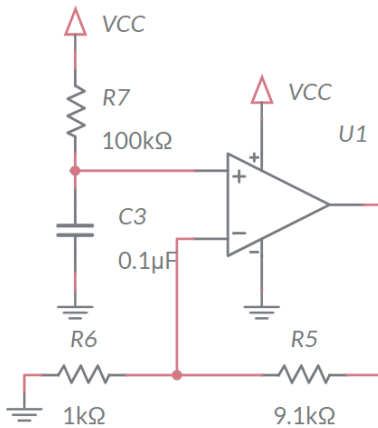

Figure 3: The Pseudo Ramp Generator circuit.
When plotted as a function of time, a ramp function has a constant slope measured as $\frac{\Delta V}{\Delta t}$. The term “Pseudo” is introduced into the name because the circuit to be built, shown in Figure 3, does not have a constant slope; it changes slightly as shown in Figure 1. To understand this further, let’s start the analysis of this circuit.
The analysis begins by recognizing the op amp configuration in Figure 3 is a non-inverting configuration. The resistors R5 and R6 form the feedback network. Note, the 9.1k resistor is formed from the parallel combination of 10k and 100k resistors. Why not just use a single 9.1k resistor? Two words, *inventory management* – it’s easier to manage the inventory of 1k and 100k resistors that are used in all sorts of PCBs, then it is to stock a wide variety of odd-ball resistor values that used just once.
1. Determine the gain of the non-inverting op amp in Figure 3.
2. Determine the time constant for the RC network on the non-inverting input of the op amp in Figure 3. Remember that no current flows into an op amp input.
So, the output of the op amp in Figure 3 is the familiar exponential charging of an RC circuit. But how on earth will this be used to generate the ramp shape shown in Figure 1? Well, if we limit the charging to the very beginning of the exponential function, then we get a signal that is very close to a straight line. To do this, we will need to limit the charging of the capacitor in Figure 3 to about 1V. We will do this by periodically removing the charge off the capacitor using a MOSFET just like we did with the Deboo Integrator.